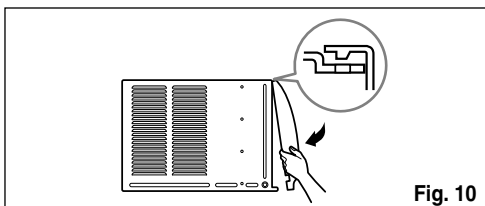

Fig. 10
13. Attach the front grille to the cabinet by inserting the tabs on the grille into the tabs on the front of the cabinet. Push the grille in until it snaps into place. (See Fig.10)